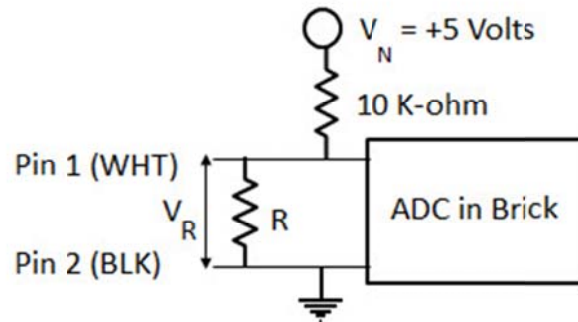

Figure 2A: Insert a random resistor R_{in} between Pins 1 and 2.
Expanding upon **Figure 1B**, one can create insert a resistor between Pins 1 and 2. This is shown in **Figure 2A**.
Recall, **Figure 2A** is a voltage divider where we have the voltage across the resistor R_s as:
Step 1: Build the circuit given in **Figure 2A**.